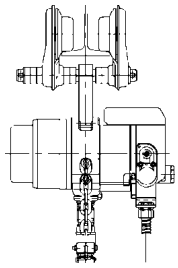

Figure 3-21 Lug mount on TF2
- 1) Refer to **Figure 3-21**.
- 3.3.4 Standard configuration for a TCR/S/K/L hoist is lug mounted to the trolley using a TCR/K/L Suspenders. As shown in **Figure 3-21** or **Figure 3-22**.